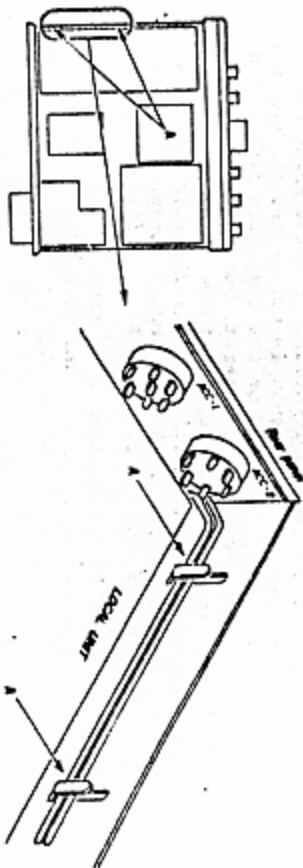

Figure 2
2. Referring to Figure 2, carefully bend the two chassis clips (marked A) slightly inwards about 5mm, so that the two gray shielded cables can be removed from the clips. It is not necessary to disconnect these cables from the pc-board.